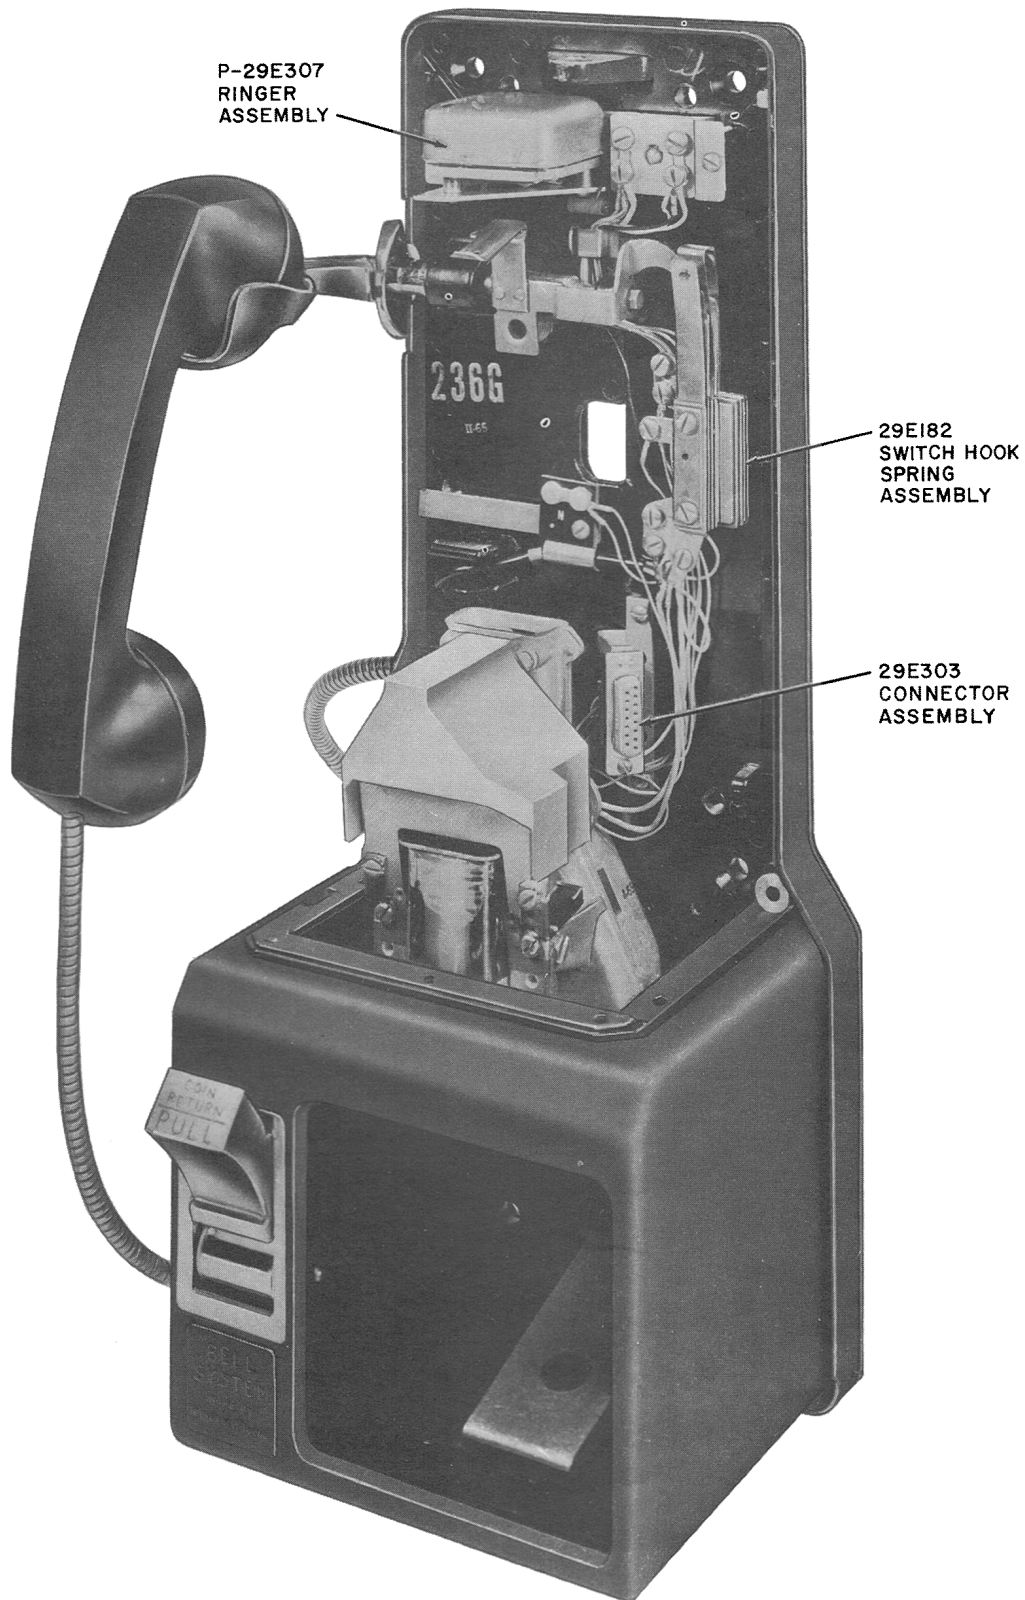

Fig. 6 — Backplate Assembly — 236-Type Coin Collector
- (a) Both ringer and network are included within the structure of the coin collector (Fig. 6 and 7).